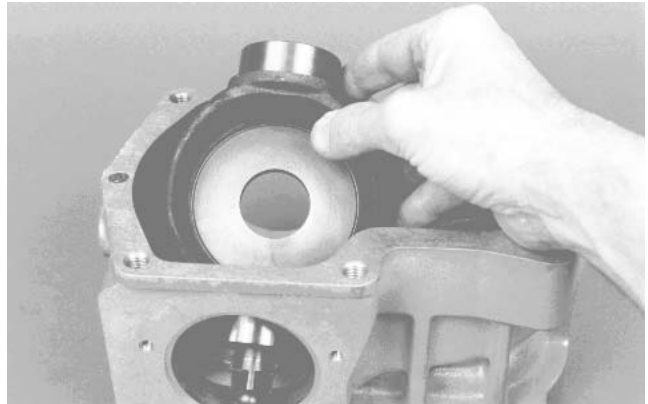

Figure 53
17. Tilt and lift swashplate from housing (Fig. 53).